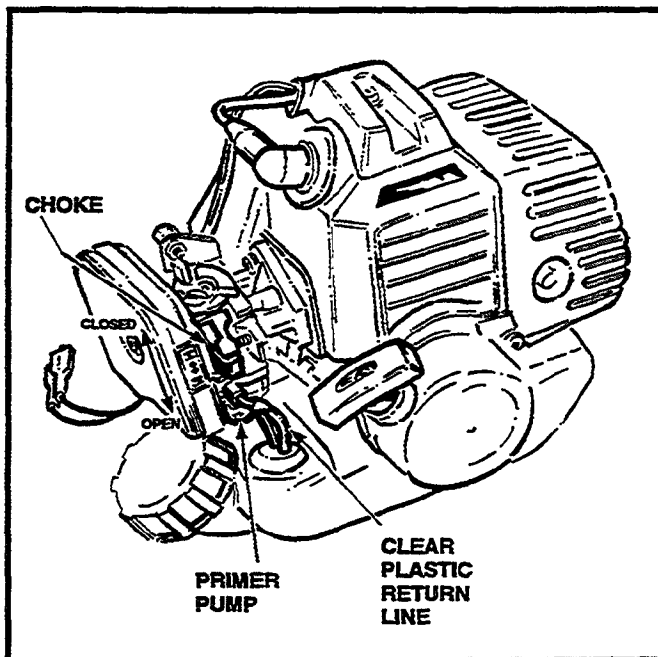

Figure 8
- Push the primer pump until fuel flows through the clear plastic return line (Figure 8).
- Place choke lever in the closed position (Figure 8).